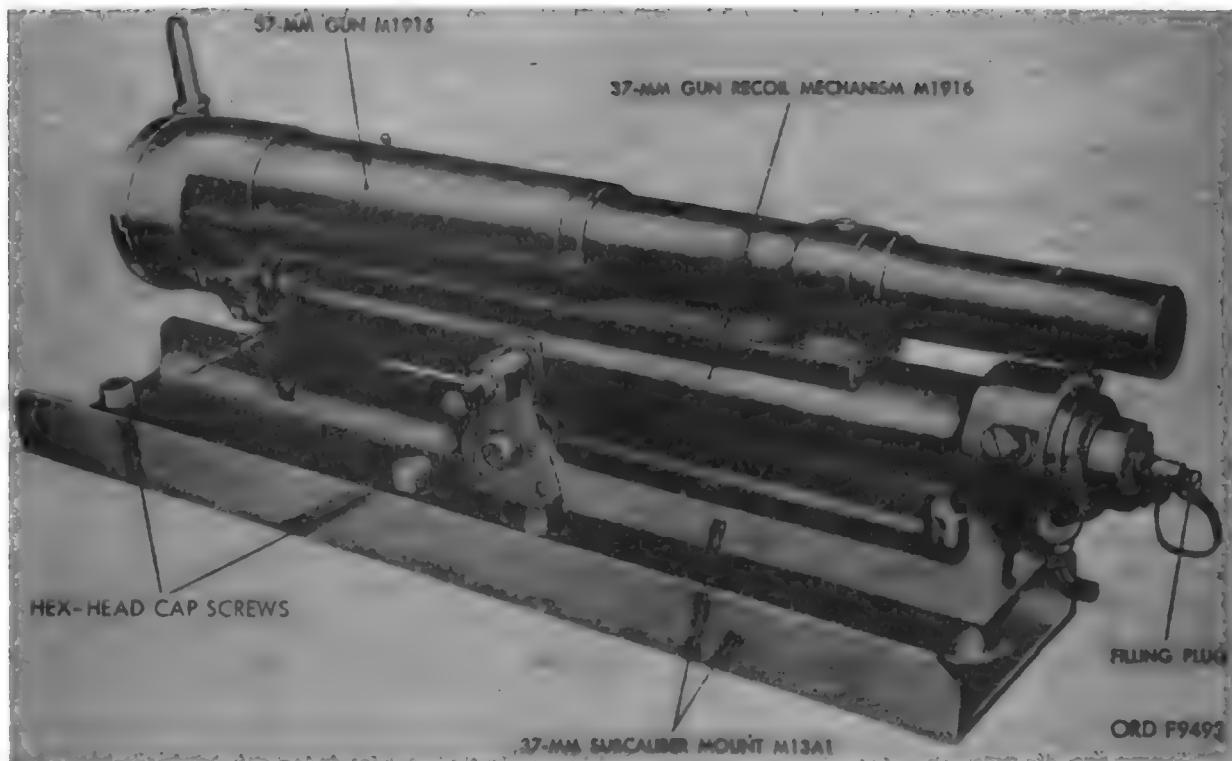

Figure 173. 37-mm subcaliber equipment for 155-mm howitzer.
a. The 87-mm gun (figs. 173 and 174) is a single-shot, hand-loaded weapon with a manually-operated eccentric-screw type breechblock.
b. The 87-mm gun recoil mechanism M1916 (fig. 173) is a hydrospring type and consists of the recoil mechanism and coun-
a. *Install 87-mm Subcaliber Mount M13A1.* To mount the 87-mm subcaliber mount M13A1, align the holes on the bottom of the cradle mounting bracket with the holes in the 155-mm howitzer recoil mechanism cradle and secure the mount with the two hexagon head mounting cap screws (fig. 173).